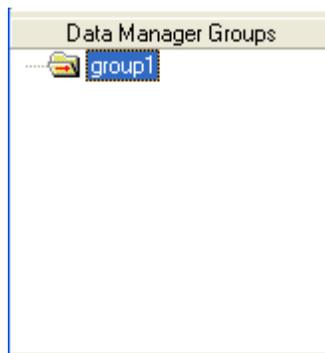

Figure 22 - Configured OPC Data Manager Group
8. The **Add Data Manager Group** window closes. You are returned to the **MatrikonOPC Data Manager Configuration** screen where the newly-created **group1** now appears listed in the **Data Manager Groups** screen section (Figure 22).